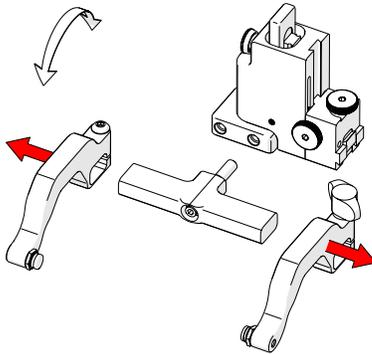

Fig. 54 - Remove probe holder arms
3. Loosen the arm clamp screw and the probe holder arm adjustment knob allowing removal of the probe holder arms (Fig. 54).